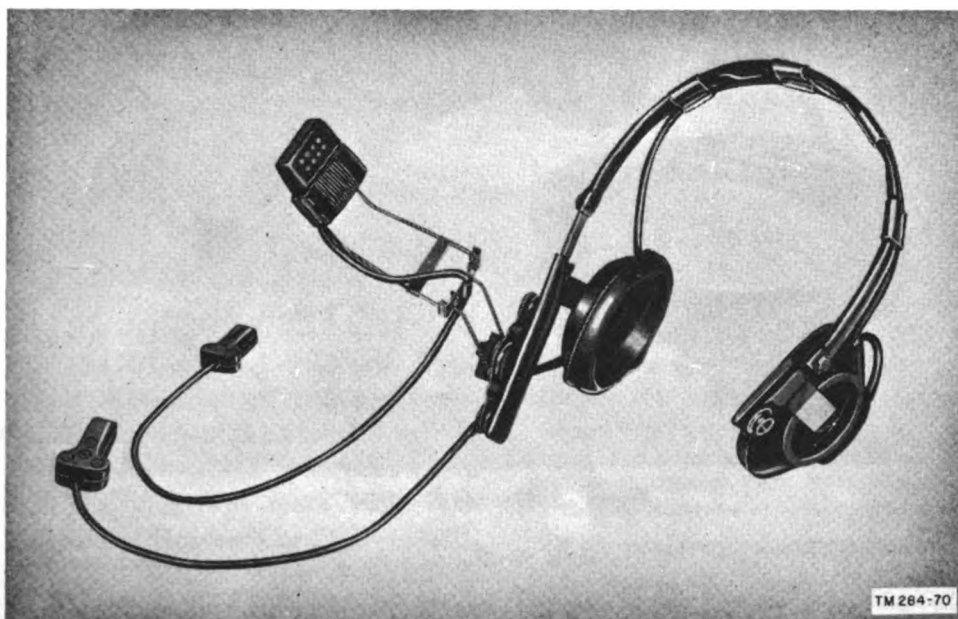

Figure 13. Headset-Microphone H-63/U
c. HEADSET-MICROPHONE H-63/U. Headset-Microphone H-63/U (fig. 13) consists of two series-connected 300-ohm receivers and a 40- to 150-ohm microphone. The microphone is mounted on an adjustable boom attached to the receiver headband. Two 14-inch conductors from the microphone and headset are terminated in two-pin and three-pin jacks, respectively. These jacks will mate with the plugs on Chest Set Group AN/GSA-6.